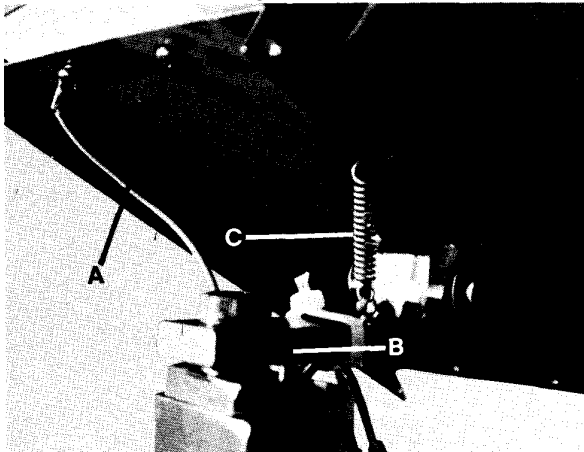

Fig. 10
- 2) Remove the upholstered leg support top section by removing (4) screws, Item A, Fig. 10, noting the position of the green grounding wire.
- 5) Place new upholstered leg support top section in position, align holes, and install (4) #10-24x $\frac{3}{8}$ " screws, Item A, Fig. 10, making sure the green grounding wire is reattached.